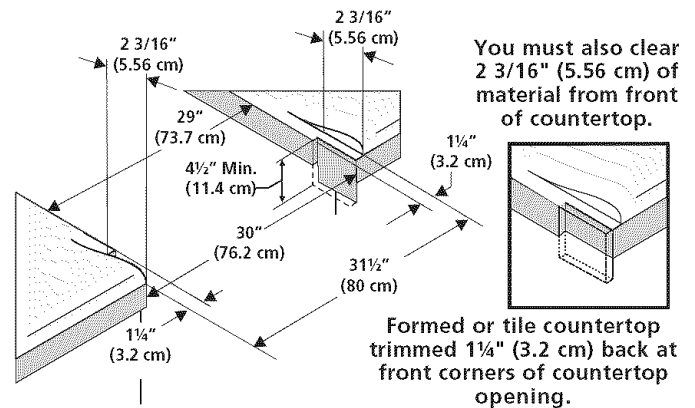

Figure 5
- For existing cutout width of 29" (73.7 cm) (Figure 5):